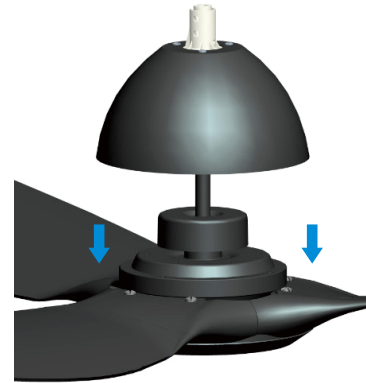

Fig 3.1
3.1 As shown in the Fig 3.1, put back the dismantled motor hub shell and align the screw holes.